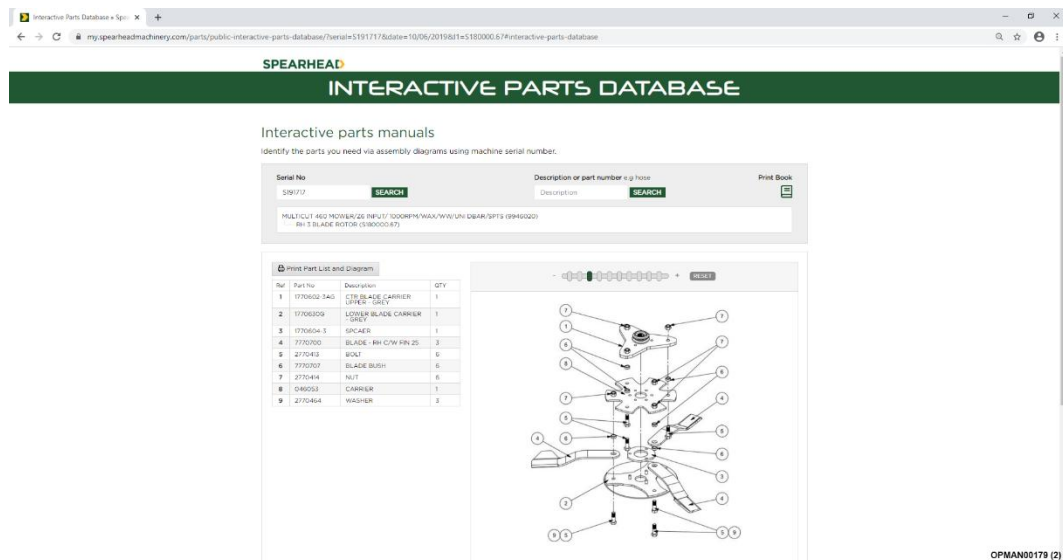

Figure 21 – Exploded Parts Breakdown With Bill Of Materials
- 7.1.1.4 You will finally be presented with a full exploded parts breakdown for that particular assembly, giving part numbers and the quantities required; see Figure 21.